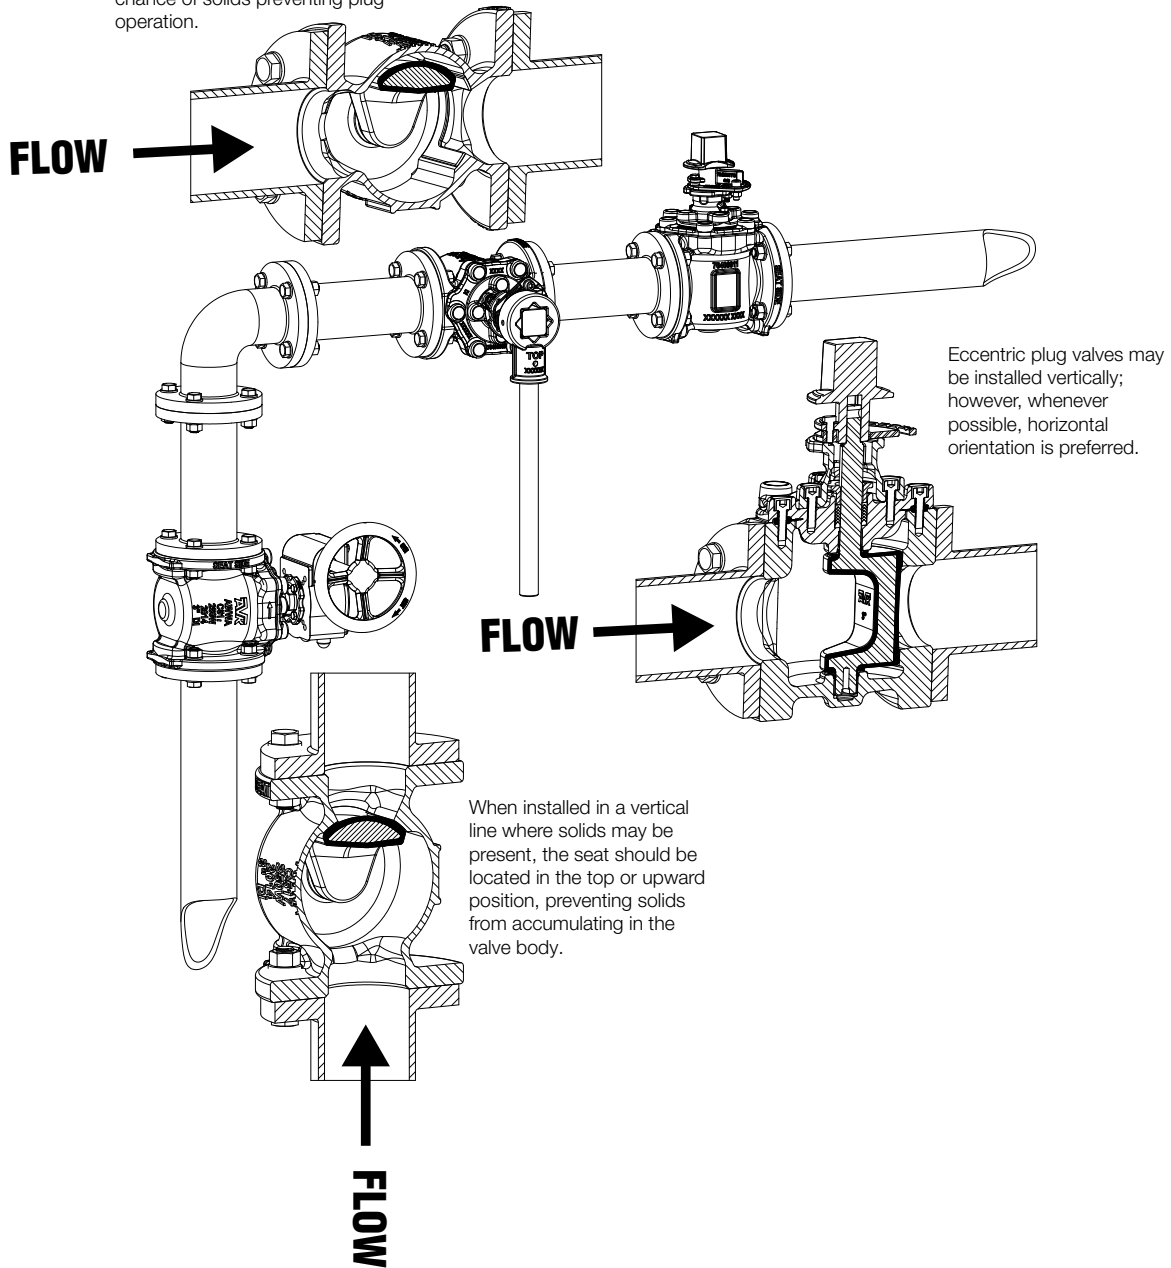

Fig. 1
2. Install the valve as shown in Figure 1.